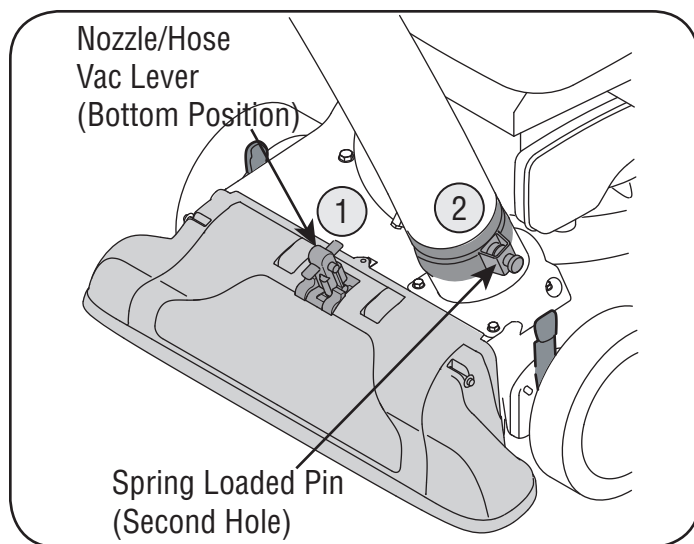

Figure 14
1. Place nozzle/hose vac handle in the bottom position on the nozzle to redirect vacuum to the hose assembly. See Figure 14.